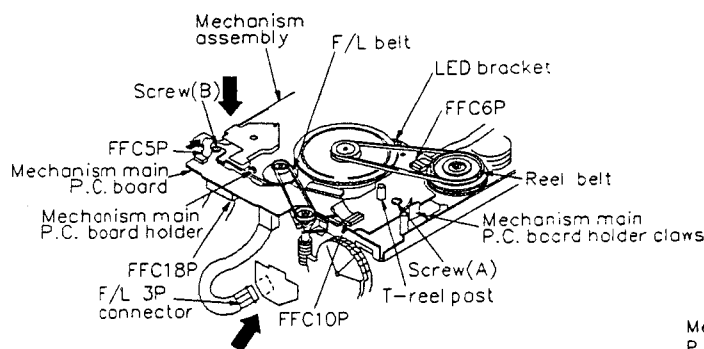

Fig. 4-15-3
2. Disconnect FFC5P from the mechanism assembly, rear side by pulling it in direction shown by the arrow. Next, remove the F/L belt and the reel belt. (Fig. 4-15-3)